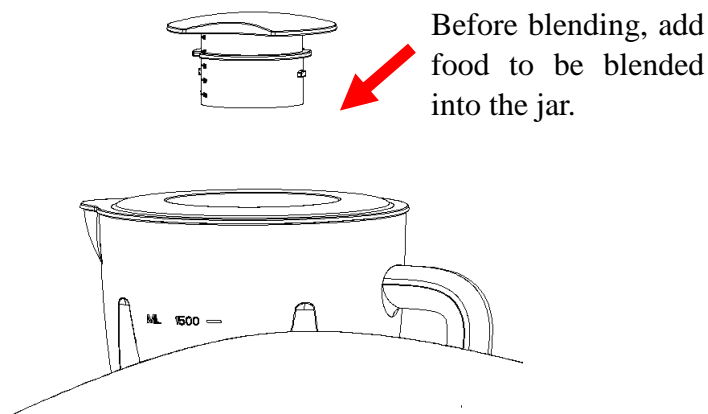

Fig.6
2. Place the food to be blended into the jar (See Fig.6. Usually, certain amount of purified water has to be added to facilitate the smooth running of appliance. The proportion of the food and water is 2:3. The amount of mixture should not exceed the max level as indicated on the jar.